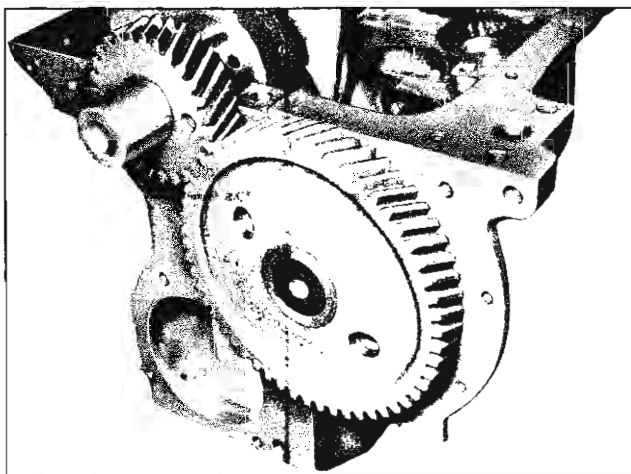

Fig. 73—Align Timing Marks
9. Install camshaft carefully to prevent damage to bearing, align timing marks (fig. 73) and install thrust plate retaining screws through camshaft gear.